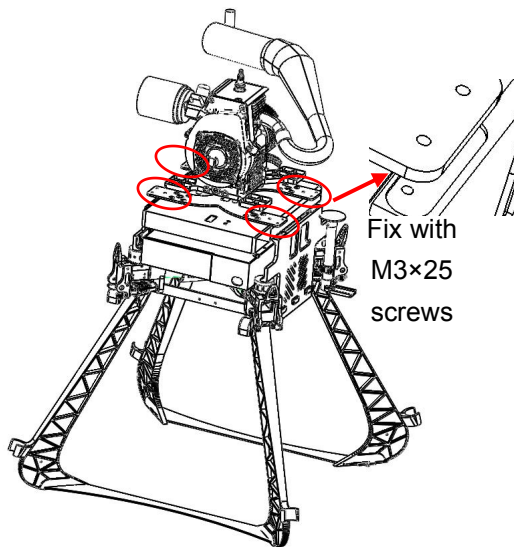

Figure 9
5) Fix the engine module and tank bearing module with M3 × 25 screws as figure 9.